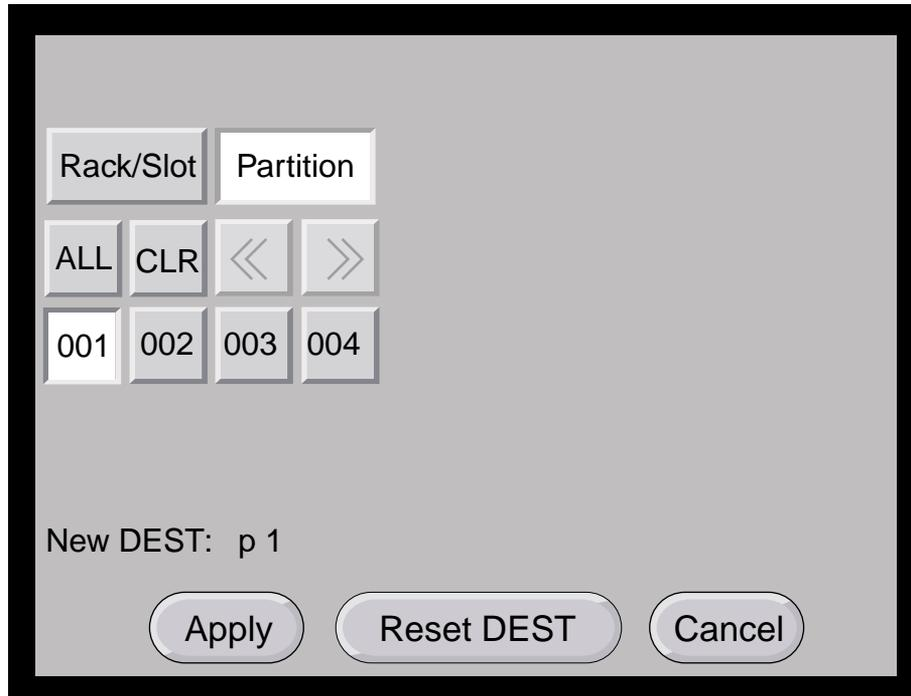

Figure 4-11 Selecting an Individual Partition
5. You can select all partitions by selecting **ALL** from the partition selection window, or you can select a single or multiple partitions by selecting the individual partition numbers. Figure 4-11 shows the selection of partition **001**.